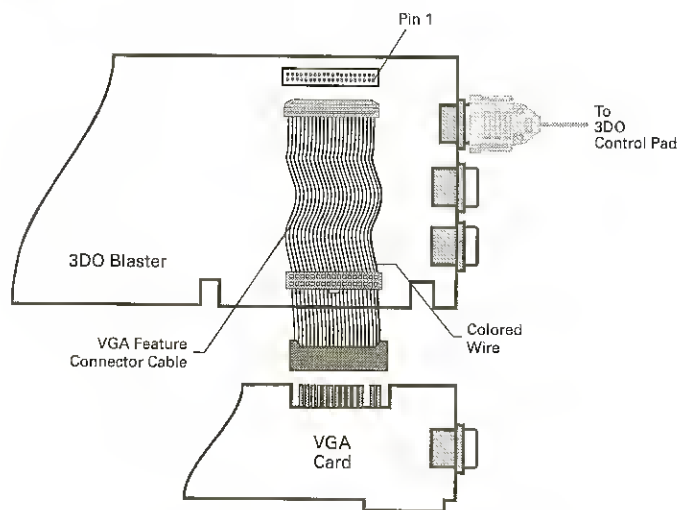

Figure 2-14: Connecting the VGA Feature connectors of 3DO Blaster and the VGA card using the VGA Feature Connector cable.
1. Attach the 26-pin female connector end of the VGA Feature Connector cable to the VGA Feature connector on your 3DO Blaster (see Figure 2-14).
2. Attach the other end of the VGA Feature Connector cable to the VGA Feature connector of your VGA card as shown in Figure 2-14.